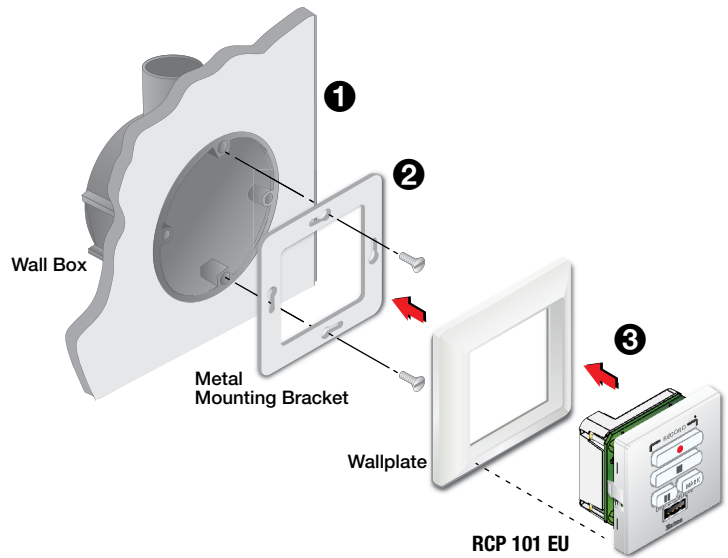
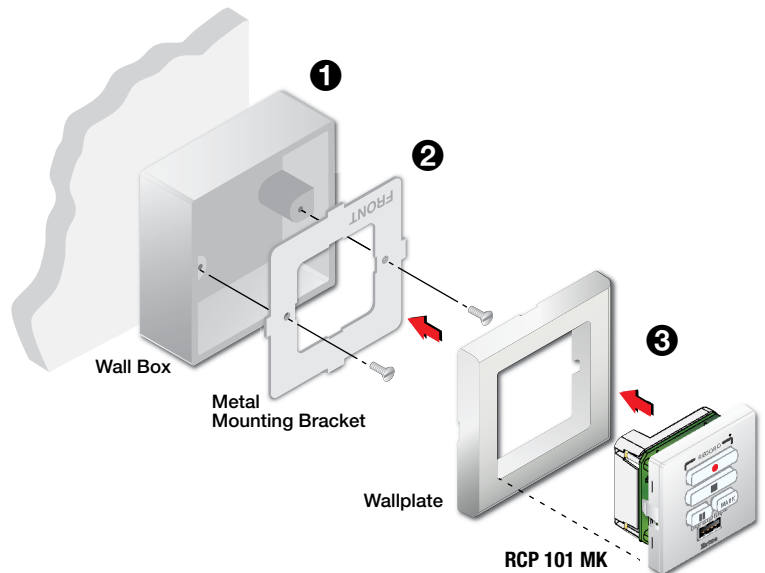

Figure 4. Mounting the RCP 101 EU
Figure 5. Mounting the RCP 101 MK
The RCP 101 EU (see figure 4) and RCP 101 MK (see figure 5) are mounted as follows:
4. If required, undo the two screws securing the metal mounting bracket to the wall box (figure 4, 2, above).